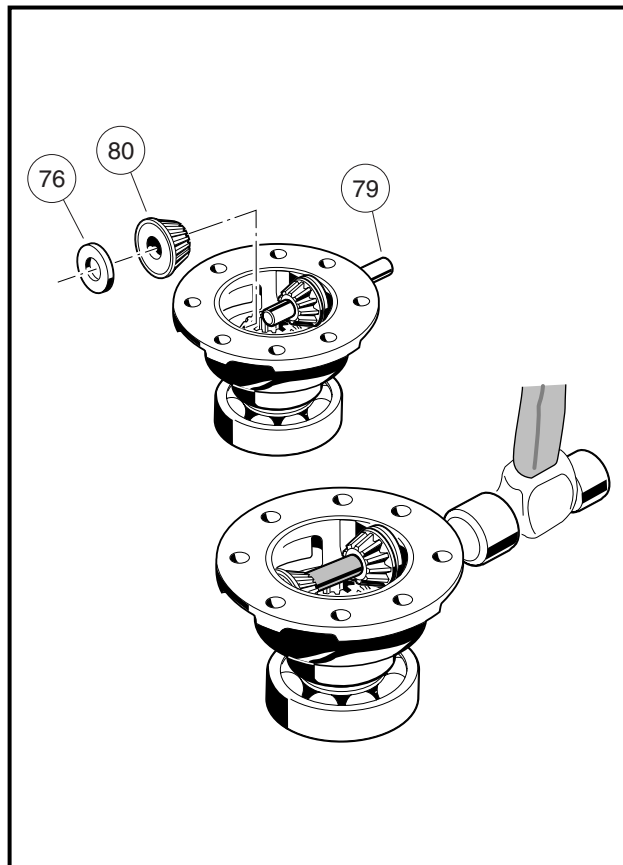

Figure 6-36 Second Idler Gear
- Position the other thrust plate (76) and idler gear (80) in the carrier case. Continue to drive the pin (79) through them and the wall of the carrier case until the ends of the pin are flush with the sides of the carrier case (**Figure 6-36, Page 6-18**).